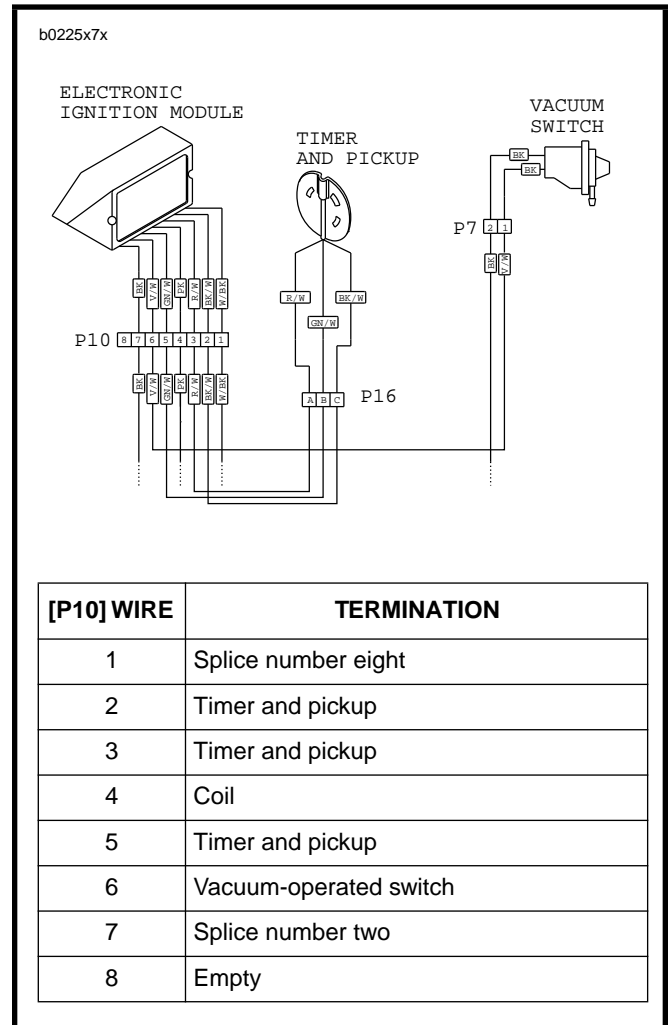

Figure 7-8. Ignition Module Connector [P10]
4. See Figure 7-8. Disconnect ignition module connector [P10] from main wiring harness.
2. See Figure 7-8. Attach ignition module connector [P10] to main wiring harness.